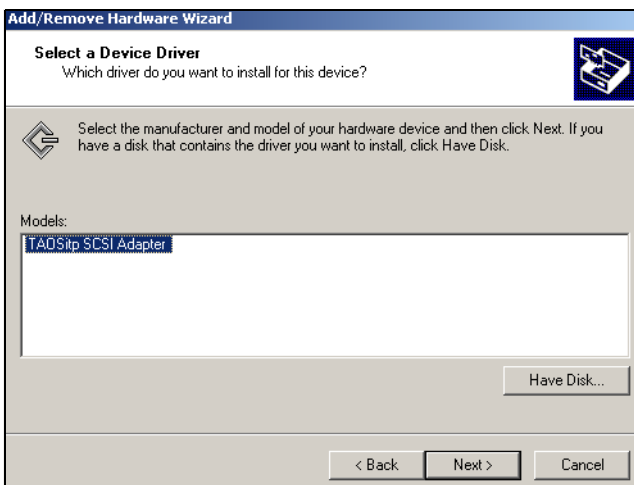

Figure 7-25 The Select a Device Driver Window, click Next.
24. Highlight **TAOS iTP SCSI Adapter** and click **Next** (Figure 7-25).